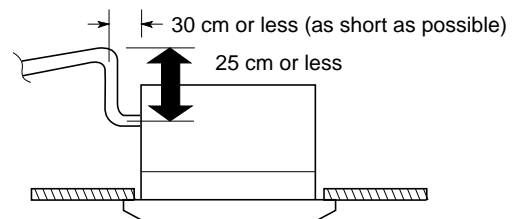

Fig. 3-41
- If it is necessary to increase the height of the drain pipe somewhat, the portion directly after the connection port can be raised a maximum of 25 cm. Do not raise it any higher than 25 cm, as this could result in water leaks. (Fig. 3-41)